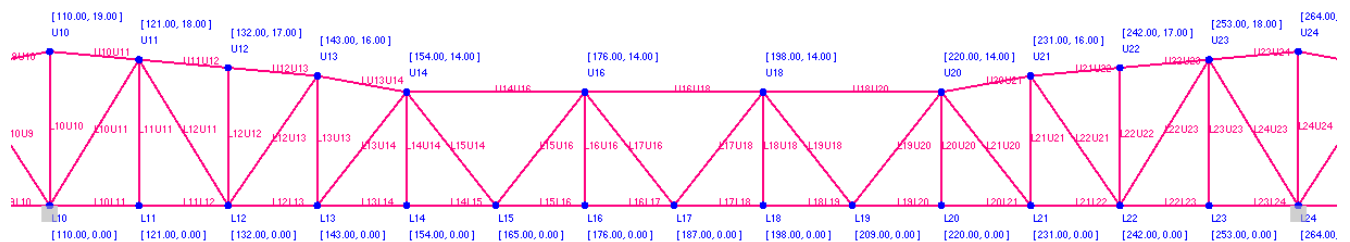

Figure 2
- Figure 2 shows the schematic of the suspended span, which is from member L13U13 to L21U21.